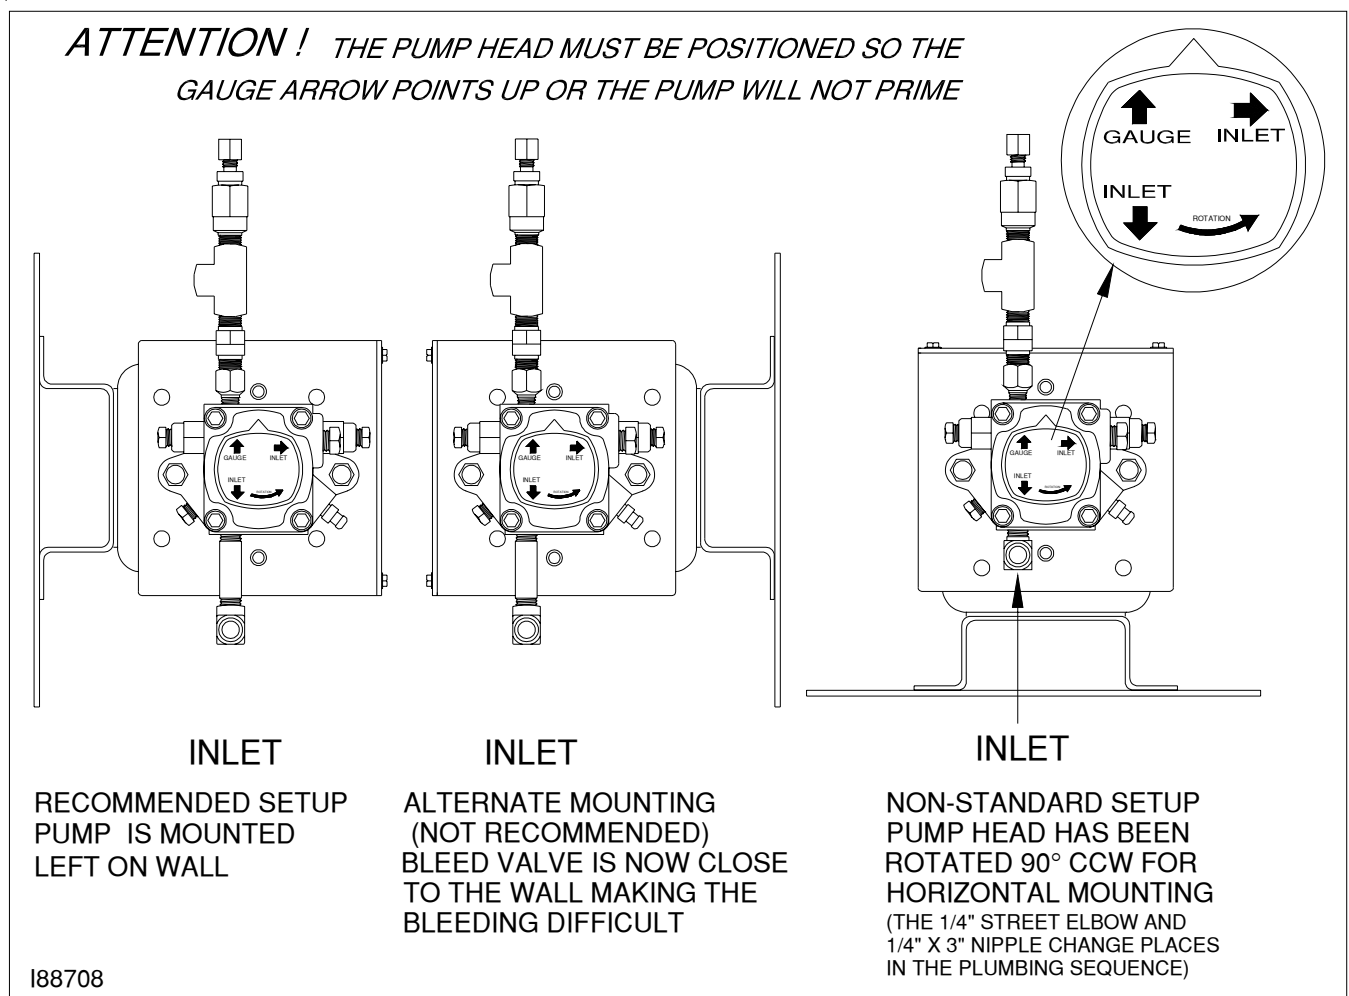

Figure 4F - Proper Positioning of Metering Pump Head
ATTENTION: If the metering pump is to be mounted horizontally or on a bracket as shown in Figure 4F, the pump head must be rotated counterclockwise so that it is aligned in a horizontal position. *The gauge arrow on the pump head must point up, or the pump will not prime.*
3. Rotate the pump head 180 degrees to the horizontal position as shown in Figure 4F.